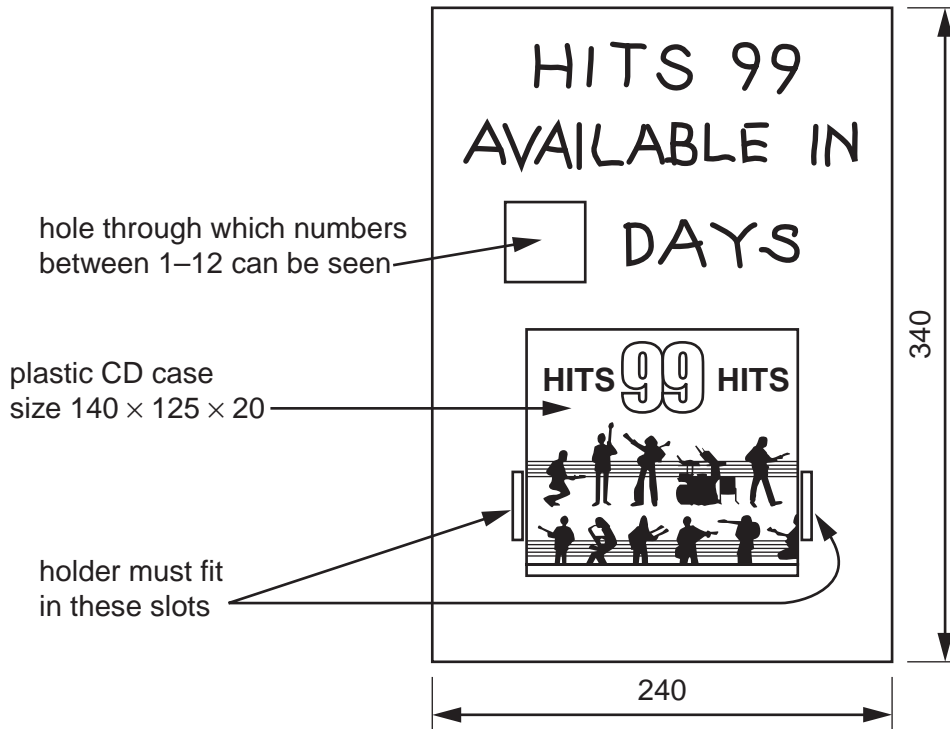

Fig. 9
- 8 Fig. 9 shows an incomplete idea for a point of sale display stand advertising a new CD (disc). The display stand is made from card.
- (d) Using notes and sketches, develop a design for the lettering shown in Fig. 9 to go on the stand in the given position. [16]